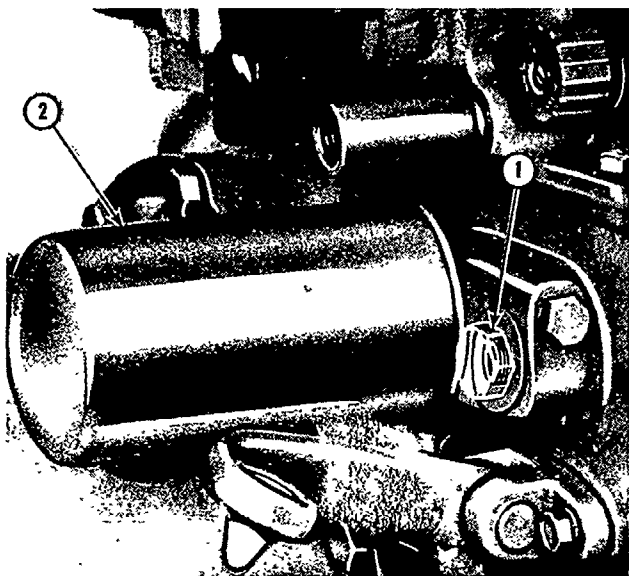

Figure 19
2. Remove the cap nut, Figure 19, from the hydraulic oil filter manifold.